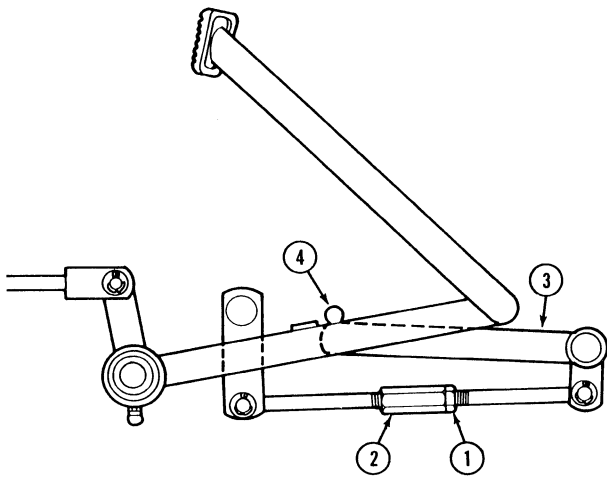

FIGURE 4-63
1. Loosen the locknut, 1, on the turnbuckle, Figure 4-63.
2. Rotate (shorten) the turnbuckle, 2, until the lever, 3, comes in contact with the shaft, 4, of the brake pedal, Figure 4-63.